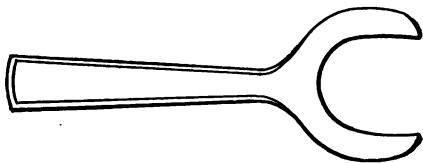

Fig. 73—The Wrench Complete.
*A* as for an ordinary weld. Then forge the handle and weld on and complete the wrench, as shown in Fig. 73.